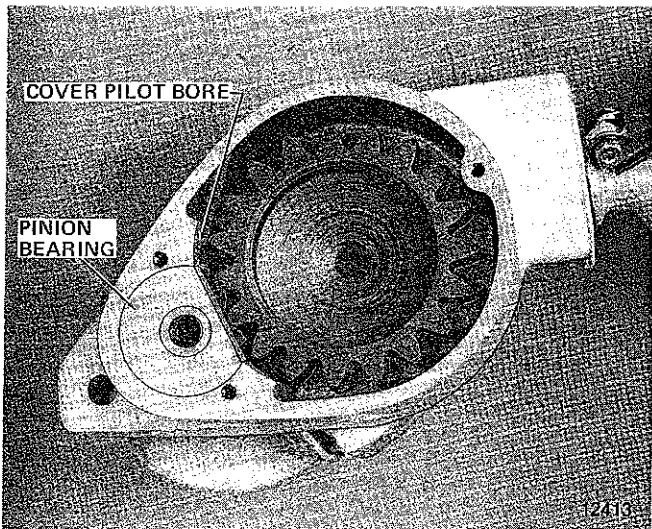

Figure 6-8. Positioning of Pinion Bearing
b. When installing pinion bearing, be certain to position it so chamfer in bore faces the pinion gear. See Figure 6-4. The flat on side of bearing must be perfectly aligned with cover pilot bore in frame, as shown in Figure 6-8. Sequence of assembly is: pinion, sprocket, then pinion bearing.